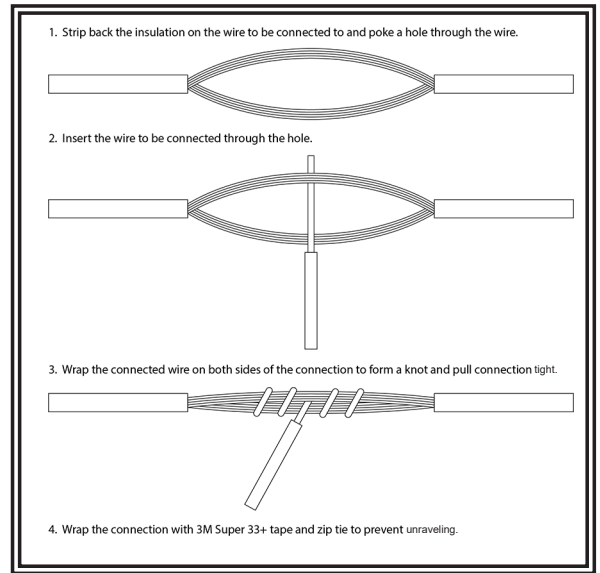

Figure 4
Step 7. Splice the **Code 3** supplied harness to the blue and white wires following the chart below shown in Figure 4. **Note: It is recommended that the splice be soldered after functionality is checked.**